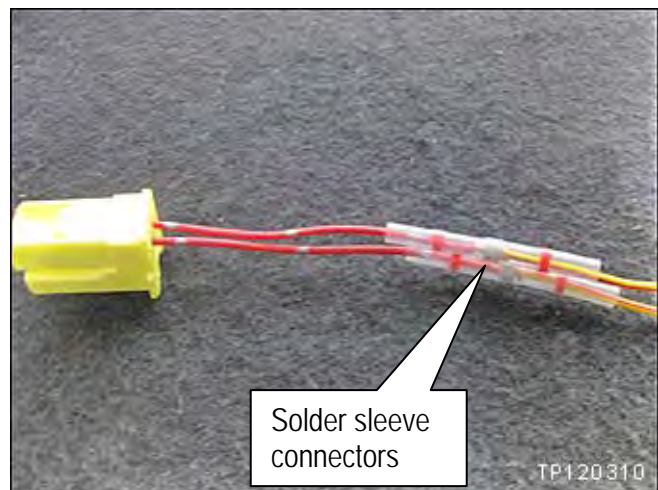

Figure CR30
29. Slide the solder sleeve connectors over the twisted wires (see Figure CR30).